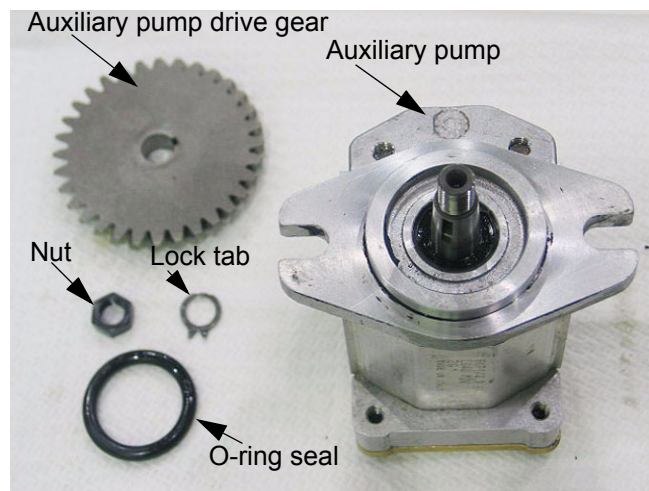

Figure 10.1
- 10.1. The gear must be removed from the pump in order to remove the pump from the transmission. See Figure 10.1.